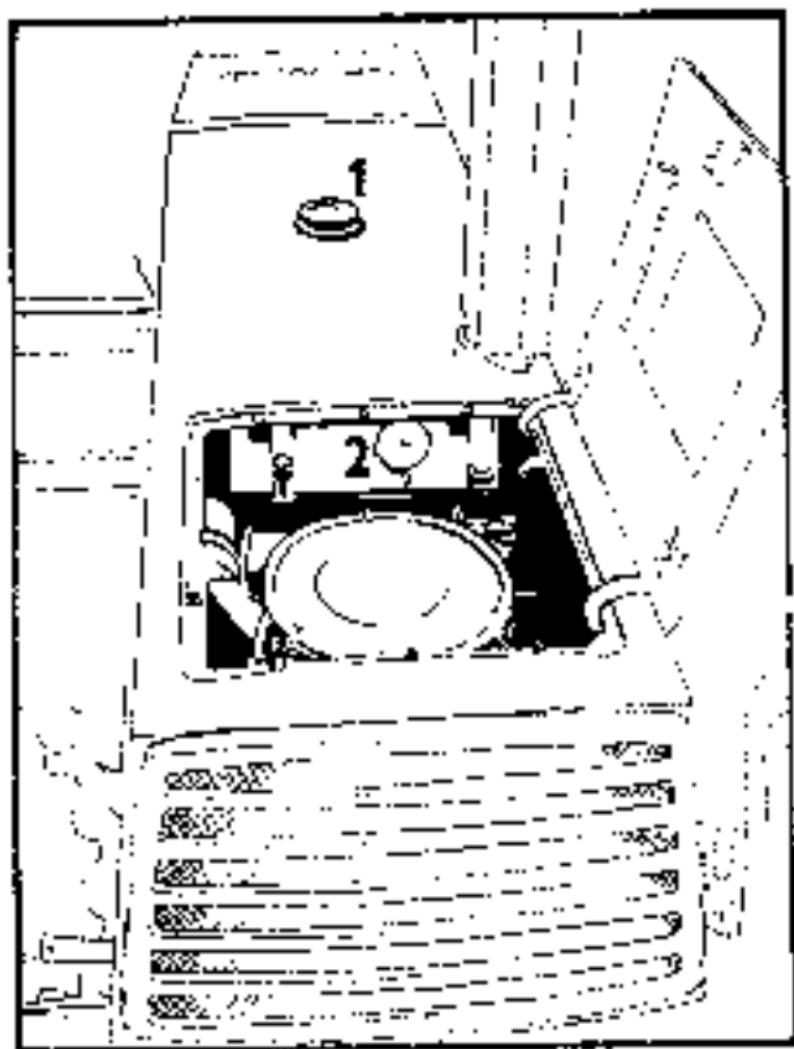

Fig. 12
Fuel filling plug (Fig. 12/1)
- Cooling liquid (Fig. 12/2) filling plug - on Z 8011, Z 8045 the liquid is poured into an equalizer - up to half the height of this equalizer. On Z 8011, Z 8045 the cooling is poured directly into the radiator.